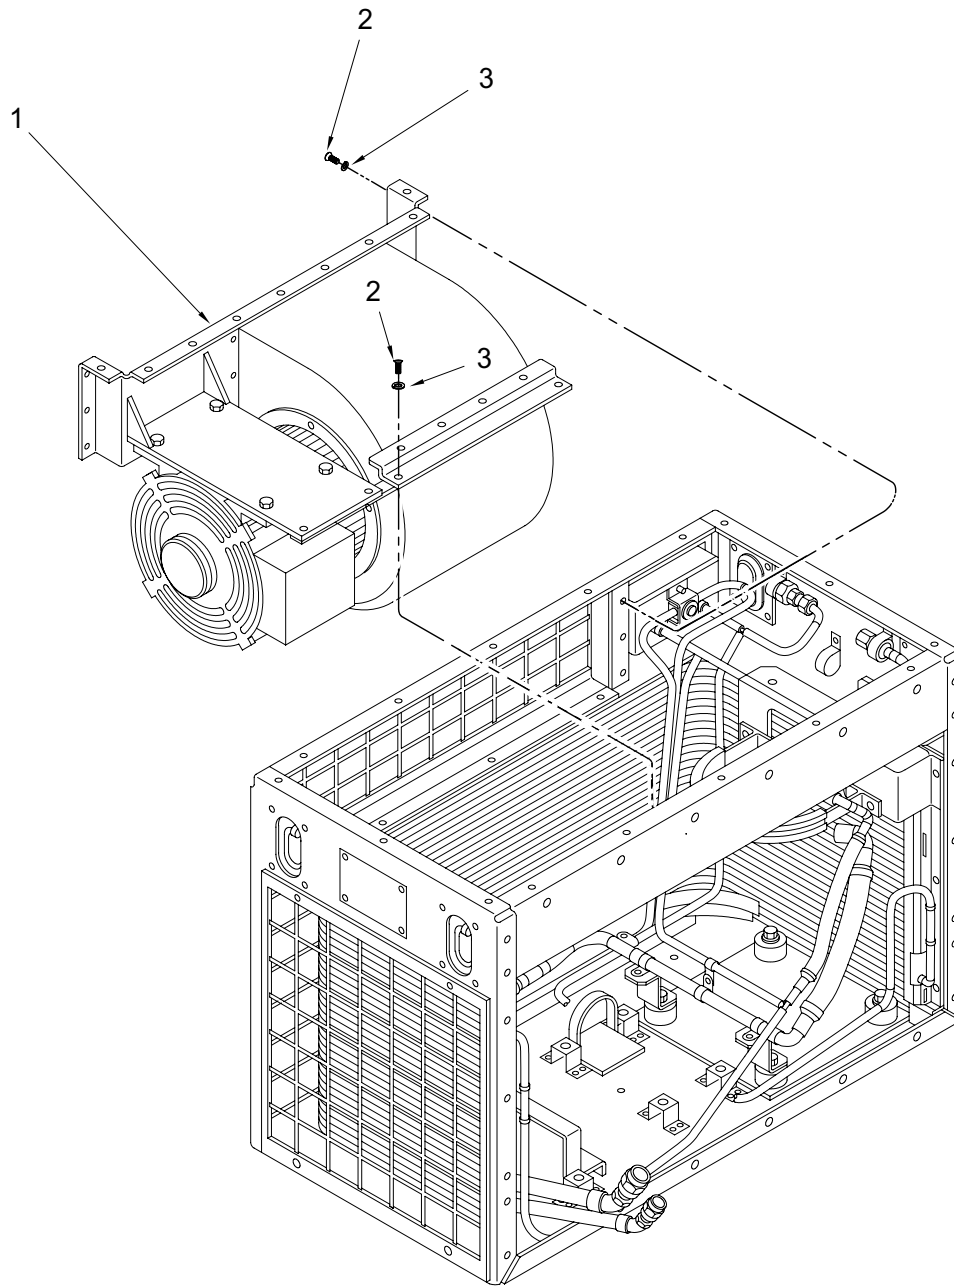

Figure 1. CONDENSER BLOWER AND MOTOR ASSEMBLY - LOCATION.
1. Remove screws (2) and lockwashers (3) that secure blower housing to front and rear condenser housing. Carefully remove blower and motor assembly (1) through top of condenser housing. See Figure 1.